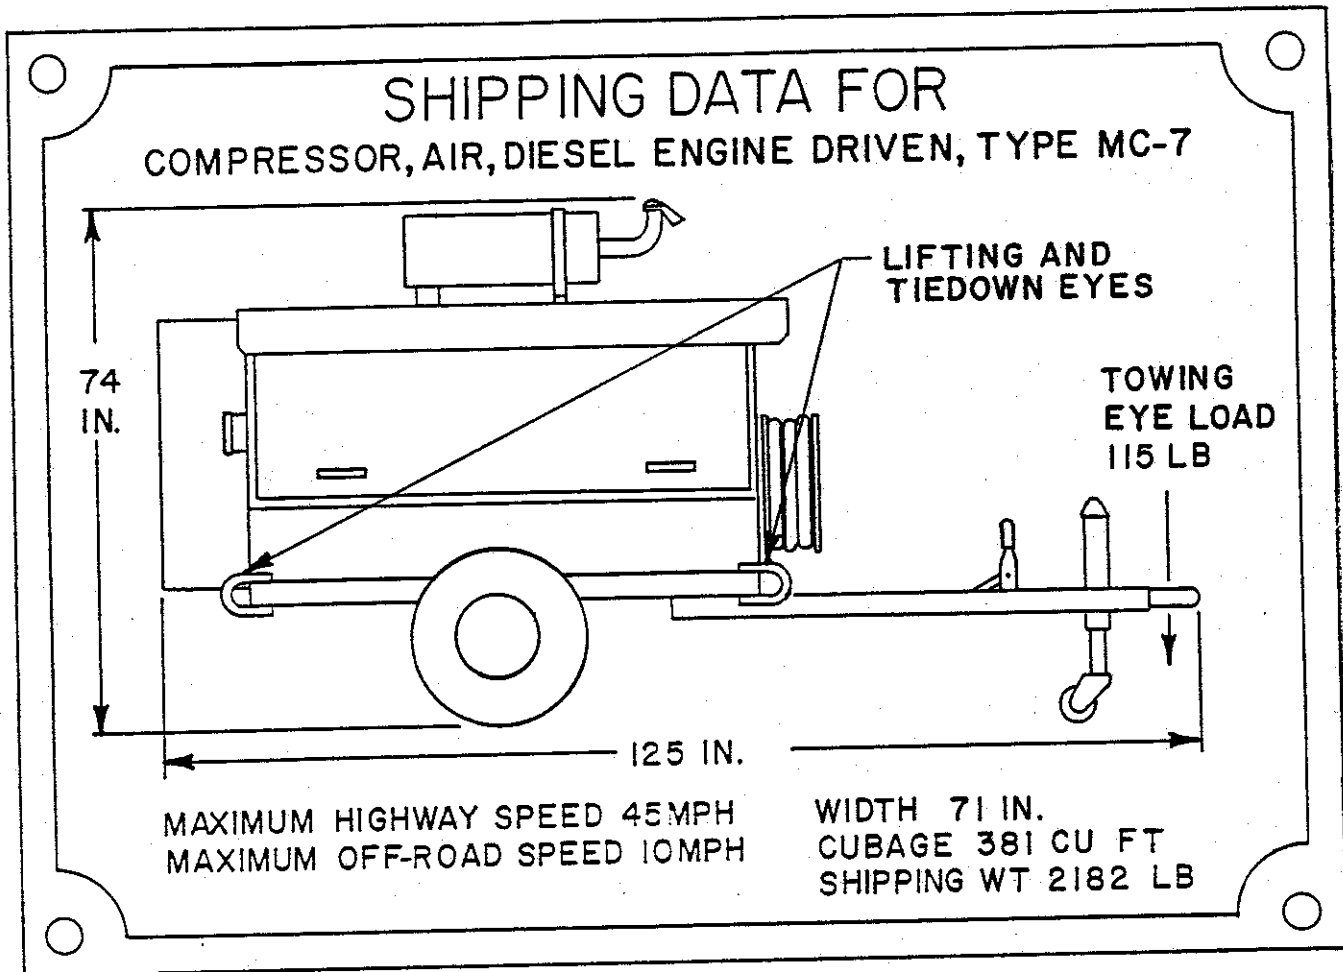

Figure 3-1. Tiedown and Lifting Diagram
a. The air compressor unit is shipped by the manufacturer as a completely assembled two-wheel, trailer mounted unit. Lifting, and tie-down, provisions are incorporated on the unit as shown on Figure 3-1 and on the Shipping Data Plate.
a. If a lifting device is used, connect the device to the unit as shown in Figure 3-1.